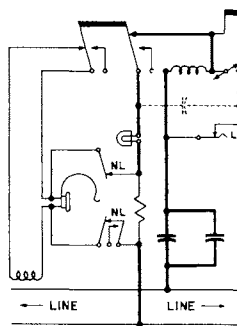

Figure 4. Circuit with key up.
- b. Up (nonlocking): To determine distance to low resistance faults and also for high-resistance and insulation tone tests. Finder coil is not used with the lever key in this position. Figure 4 is a partial schematic of this circuit.